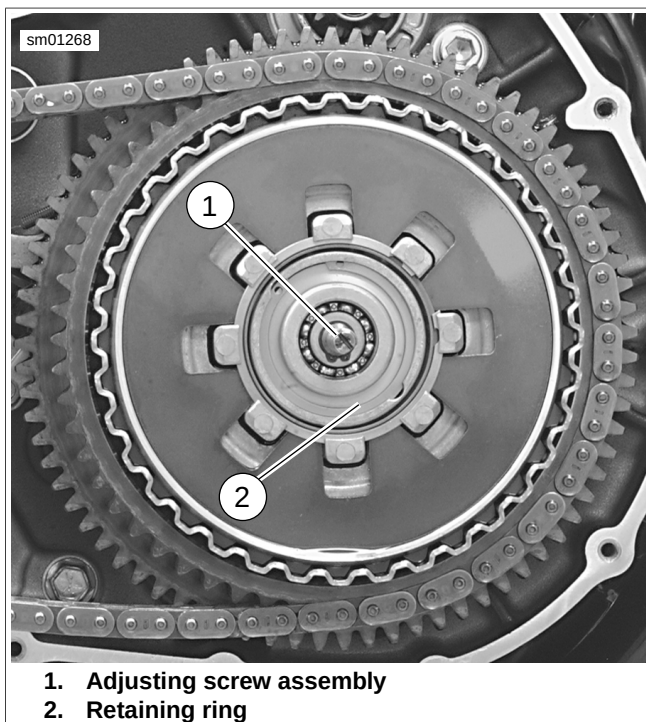

Figure 5-20. Clutch Adjusting Screw Assembly and Retaining Ring
8. See Figure 5-20. Install adjusting screw assembly (1) in pressure plate, noting that two tabs on perimeter of release plate must be inserted into corresponding recesses in pressure plate. Secure assembly with a **new** retaining ring (2).